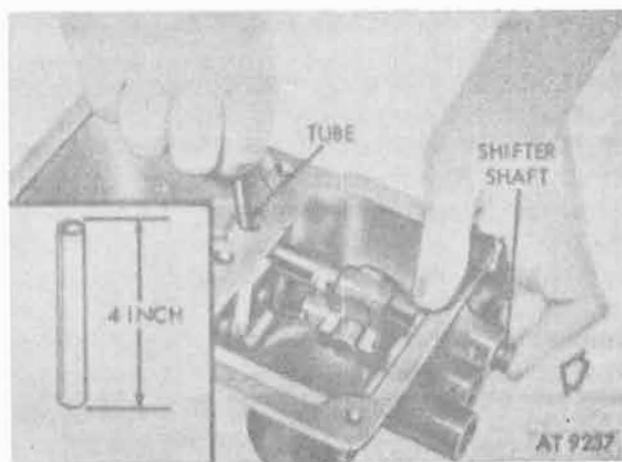

Figure 8-104. Depressing detent balls.
e. Using a piece of $\frac{1}{4}$ inch tube, depress detent ball and slide shaft into position (fig. 8-104).